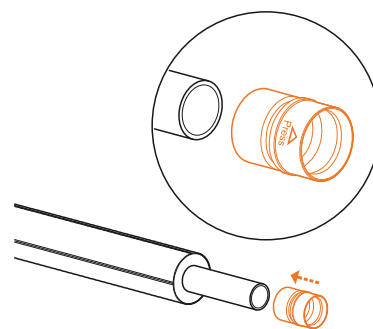

Fig. B11.1.2
4. Place the outer sleeve onto the service pipe with the skirt toward the pipe end with the cut insulation layer. The Press arrow marking on the sleeve should be pointing towards the pipe end (see Fig. B11.1.2).